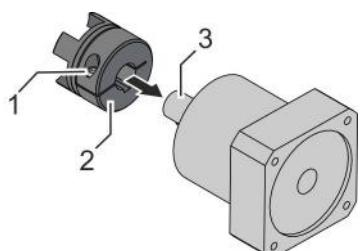

Fig. 18: Assembling the clamping hub
- 4.** Slide the coupling's clamping hub (Fig. 18/2) onto the motor's motor shaft (Fig. 18/3).
- 5.** Tighten the screw (Fig. 18/1) on the clamping hub: